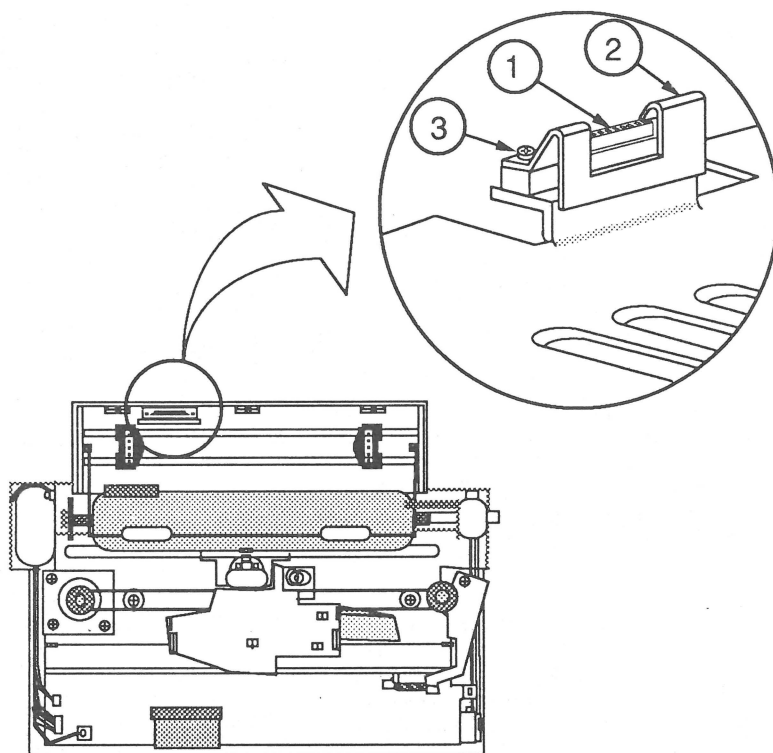

FIGURE 51
4. Place the SheetFeeder connector onto the frame support at the rear of the printer. Be sure the narrow edge of the connector (Figure 51, #1) is facing away from the printer head.
5. Place the connector bracket on top of the SheetFeeder connector so that the extension of the connector bracket (Figure 51, #2) faces the wide side of the connector and extends up into the printer and then down.
6. Replace the two screws through the bracket and SheetFeeder connector (Figure 51, #3).